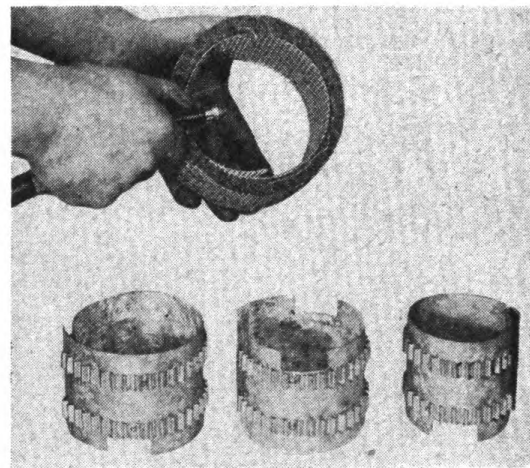

Figure 44
(2) Remove felt and thoroughly clean with gasoline or replace with new felt. Also wash all baffle and screen inserts in gasoline. The felt may be dried with air by attaching small Flex-Tip Blow Gun to air hose on reel (See Figure 44).
3. Examine compressor air intake filter. If dirty, disassemble and clean (See Figure 44).